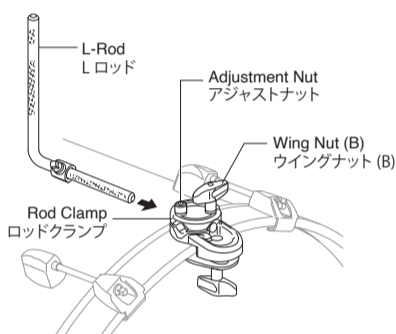

Fig. 2 / 図2
2. Insert the L-Rod into the Rod Clamp and adjust the position and angle to your preference. Tighten the Wing Nut (B) and the Adjustment Nut to secure (Fig.2).
(B) をしっかりと締めて固定してください (図 2)。